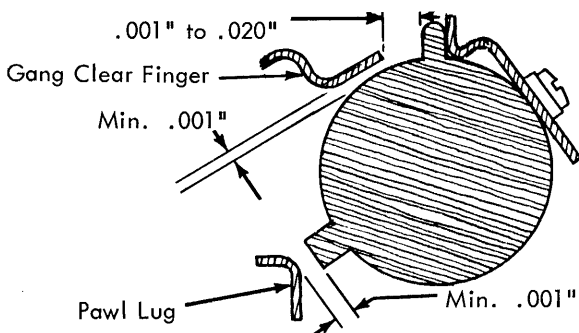

FIGURE 228B. Gang Clear
- a. Adjust the gang clear finger front to rear to obtain .001" to .020" clearance (Fig. 228B) between its tip and the nearest tab stop when all the tab stops are set.
- b. Form the end of the gang clear finger to obtain a minimum of .001" clearance (Fig. 228B) between the gang clear finger and the tab rack tube. Check for interference between the top of the gang clear finger and the underside of the tab set spring.
- c. Check for a minimum of .001" clearance (Fig. 228B) between lugs on the rear of the escapement and backspace pawls and any set tab stop when the tab rack is rotated to the clear position and the pawls removed from the rack, as in a carrier return operation. If this clearance is not present, re-check tab rack position and pawl clearance adjustments.